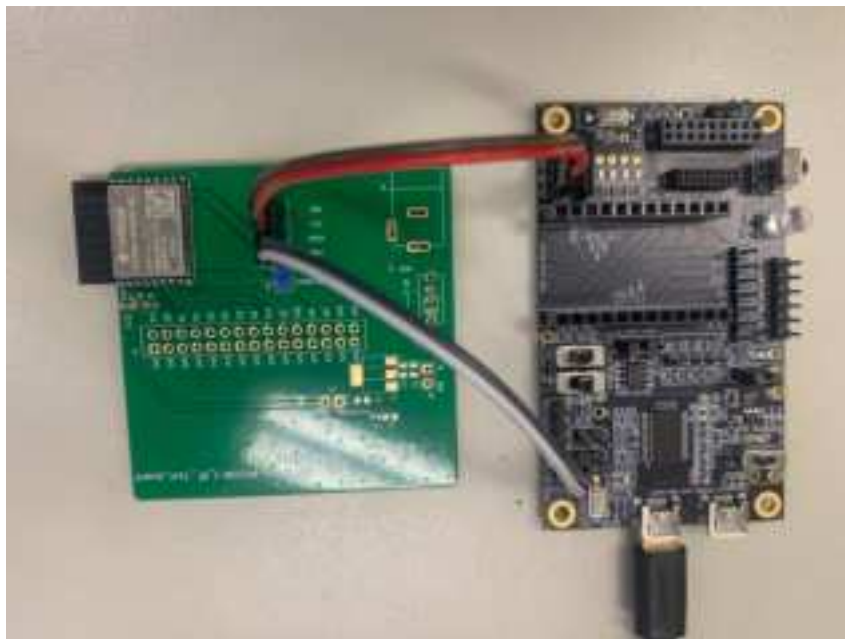

Figure 2: Hardware Connection
1. Solder the ESP8684-WROOM-02C module to the RF testing board as shown in Figure 2.